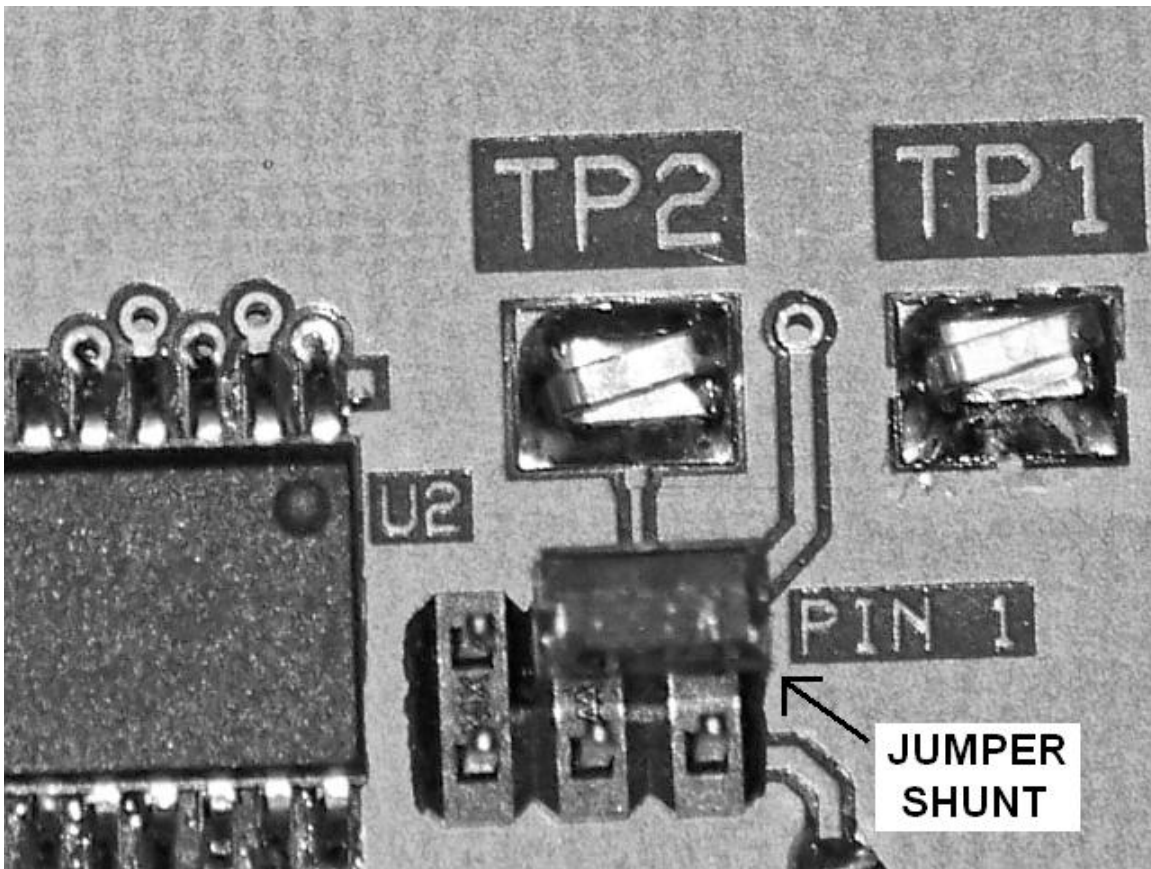

Figure 1
6. Locate the display circuit board located on the inside of the front panel and REMOVE the plastic jumper shunt across pins 1 & 3. See Figure 1 for the location of the jumper shunt.
3. Connect DMM minus - to TP1 on the display circuit board. See figure 1 for the location of TP1 and TP2.
- and REINSTALL the plastic jumper shunt across pins 1 & 3. See Figure 1 for the location of the jumper shunt.